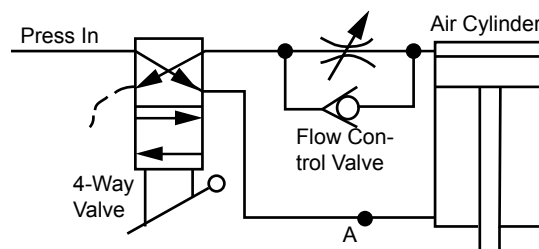
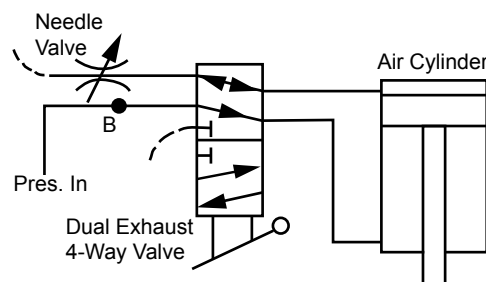

Fig. 1 Remove flow control valve entirely from rod port to get maximum speed in forward direction.
Fig. 2. Retain needle valve (on dual exhaust 4-way valves), only for direction where reduced speed is needed.
1. In-Line Speed Controls. **Figure 1.** Flow control valves installed between valve and cylinder always restrict the air flow and reduce cylinder speed to some degree even when wide open. Internal passages in both needle and check valves are usually much smaller than their connection ports. Cylinder speed in both directions will be increased with them entirely removed. In **Figure 1**, the flow control has been removed from Point A and retained in the rod port to reduce retraction speed. It will still slightly reduce forward speed because of the small orifice in the "free return" check valve.
2. Exhaust Speed Controls. **Figure 2.** Needle valves in exhaust ports of dual exhaust 4-way valves give less restriction than in-line flow control valves (**Figure 1**). The built-in "free reverse flow" check valves of in-line flow control valves contribute to pressure loss because the port size on the check valve is usually less than the valve connection size. For maximum forward speed and controlled return speed, connect one needle valve as shown.